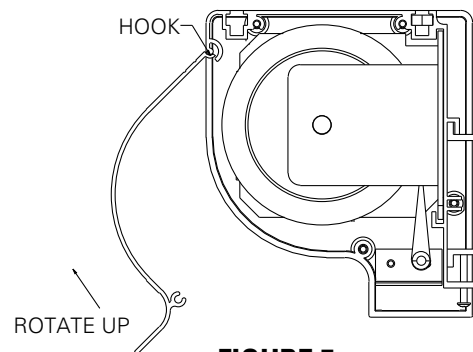

FIGURE 5
2. Rotate the cover up and away from the case until it can be removed. See figure 5.